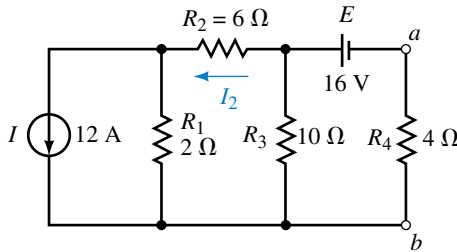

FIGURE 8-83
- 28. Use mesh analysis to solve for the loop currents in the circuit of Figure 8-83. Use your results to determine I_2 and V_{ab} .